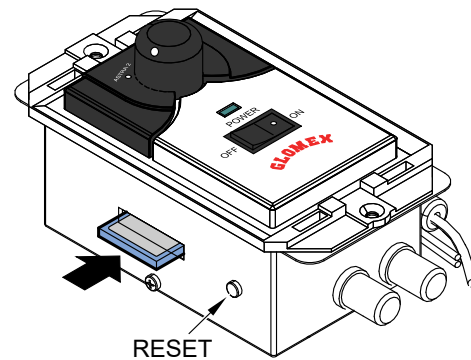

Fig. 45
4. Insert the SD card in the slot on the side of the control unit, as shown in **Fig. 45**. Turn the control unit on (B key, Fig. 24) and keep the RESET button pressed (Fig. 45) until the control unit LED becomes orange. When the update is completed, the LED becomes green. If the LED blinks red/green, the update was not successful. The updating procedure must be performed again from the beginning.